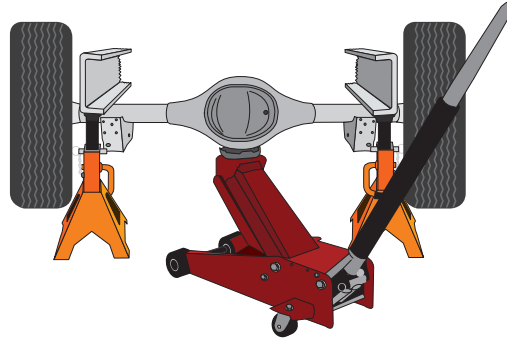

fig. D.1
1. Lift the vehicle and support the frame with safety stands. Leave enough room to drop the axle down low enough to set the air spring assemblies into position between the frame and axle. (Fig. D.1).